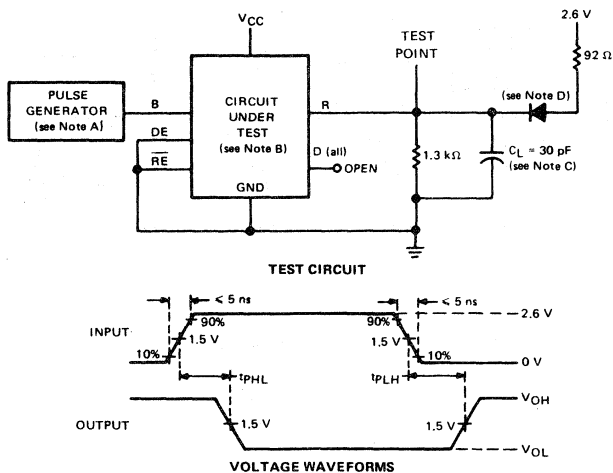

FIGURE 1—PROPAGATION DELAY TIMES FROM BUS TO RECEIVER OUTPUT
- NOTES: A. The pulse generator in Figures 1 and 2 has the following characteristics: PRR = 10 MHz, duty cycle = 50%, $Z_{Out} \approx 50 \Omega$.